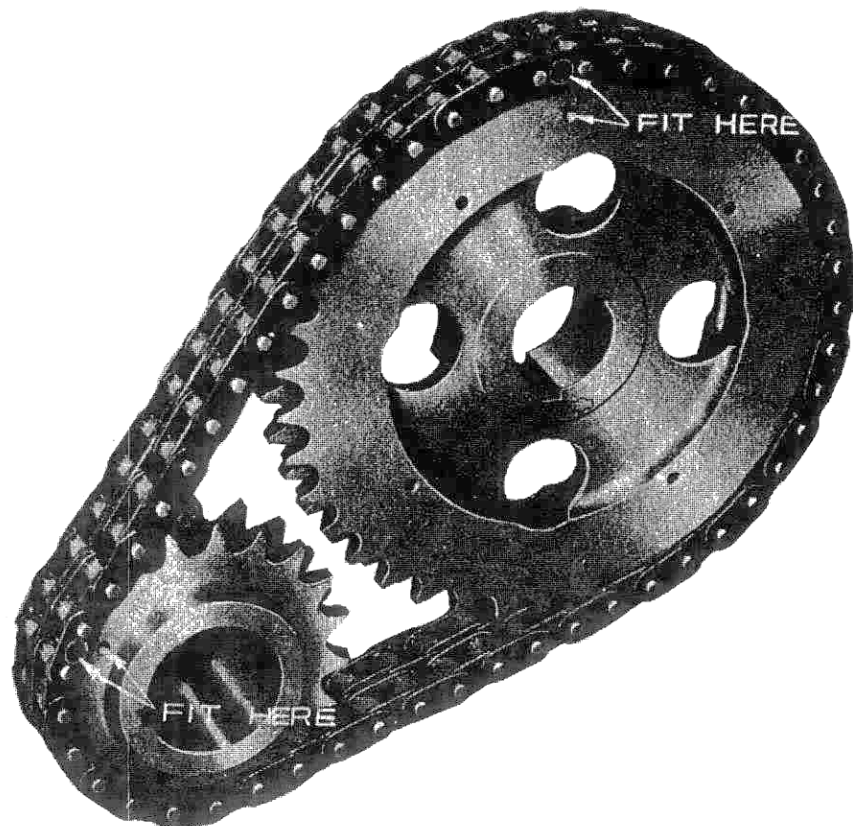

Fig. 2 Setting of Timing Gear Mark
3. Next, inserting the driving shaft of the distributor at an angle to the engine, engage the gear on its lower and with the gear on the camshaft. During this assembly place the slot of the distributor drive of the upper end of the shaft somewhat to the left as shown in Fig. 2. At this time, the smaller of the semi-circles is placed toward the front.